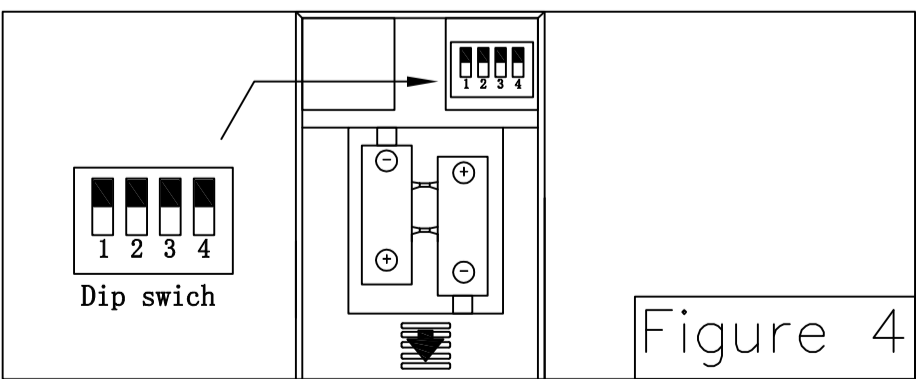

Figure 4
□ To set the remote code same positions as the receiver with a small screwdriver or ball point pen (neither included) ,slide dip switches firmly up or down. (Figure 4)